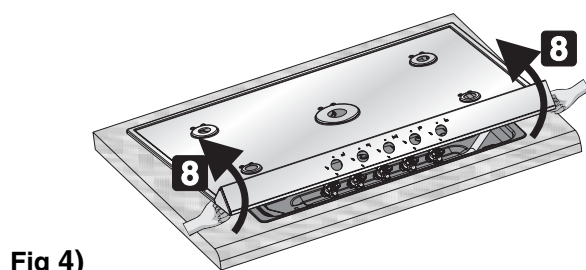

Fig 4)
- after removing all the components described above, lift the front of the hob skin (8, Fig. 4).